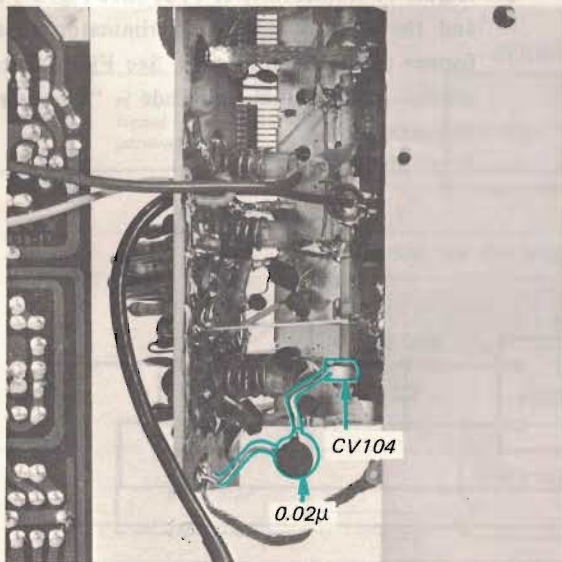

Fig. 3-2 Interruption of fm local oscillator operation
**Note:** Two methods of i-f discriminator alignment are available, sweep generator alignment and signal generator alignment. You can use either of them. In either case, the local oscillator should be killed. To stop the local oscillator's operation, remove the masking plate at the bottom of the chassis, and then shunt the oscillator capacitor with a  $0.02\mu\text{F}$  capacitor. See Fig. 3-2.